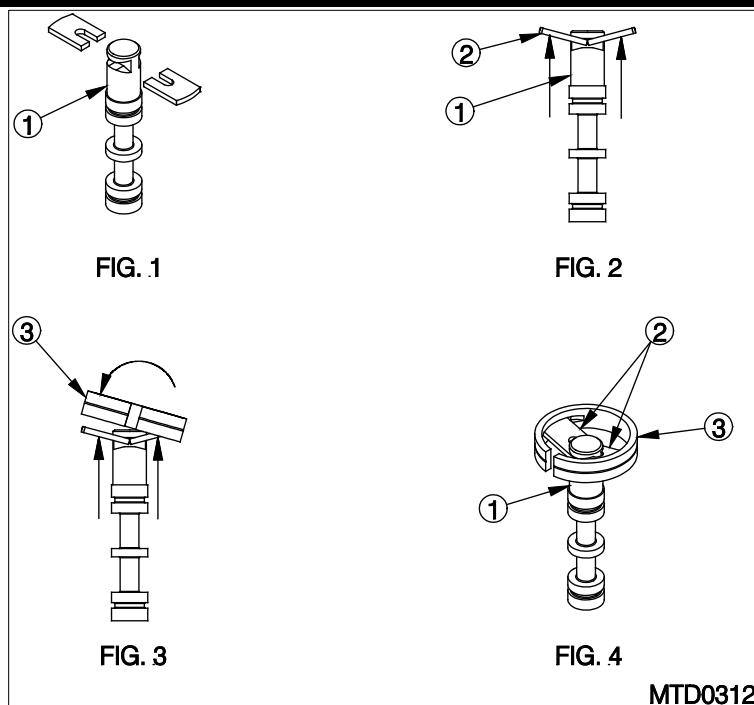

Figure 4-4: Shuttle Spool Assembly
4.8.b Shuttle spool assembly instructions (See Figure 4-4 for details)
- Hold shuttle spool (item 1) upright and align slot and in detent legs (item 2) with notch on shuttle spool.
- Tilt the detent ring (item 3) over one of the legs, and align the groove on the inside of the detent ring with the end of the detent leg. Tilt the other side of the ring down, expanding it slightly, so that the other detent leg snaps into the detent ring groove.